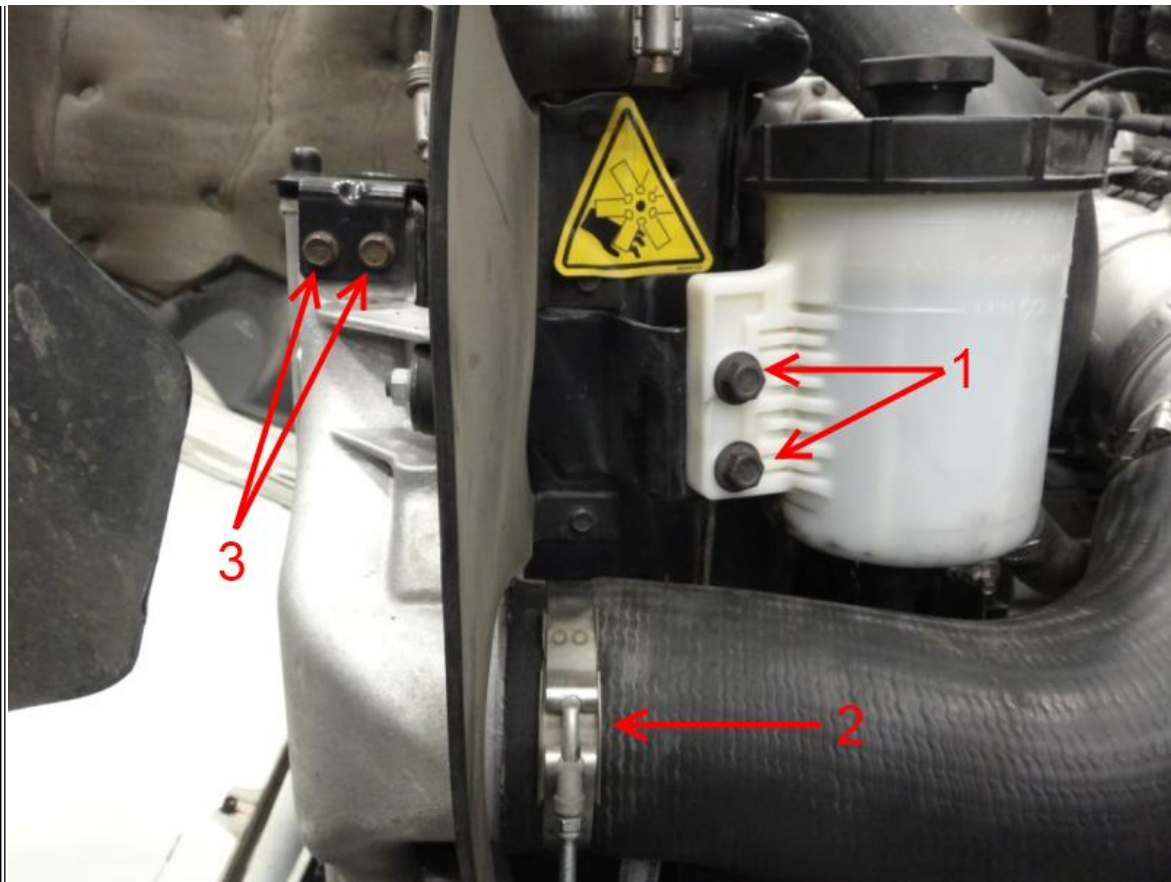

Figure 8: Driver Side HPCAC
18. Loosen the driver side HPCAC outlet clamp and disconnect the HPCAC pipe (**Figure 8**, Item 2).
19. Remove the two power steering reservoir bolts, and reposition away from the radiator (**Figure 8**, Item 1).
20. Remove the two A/C Condenser support bracket bolts (Figure 8, Item 3).